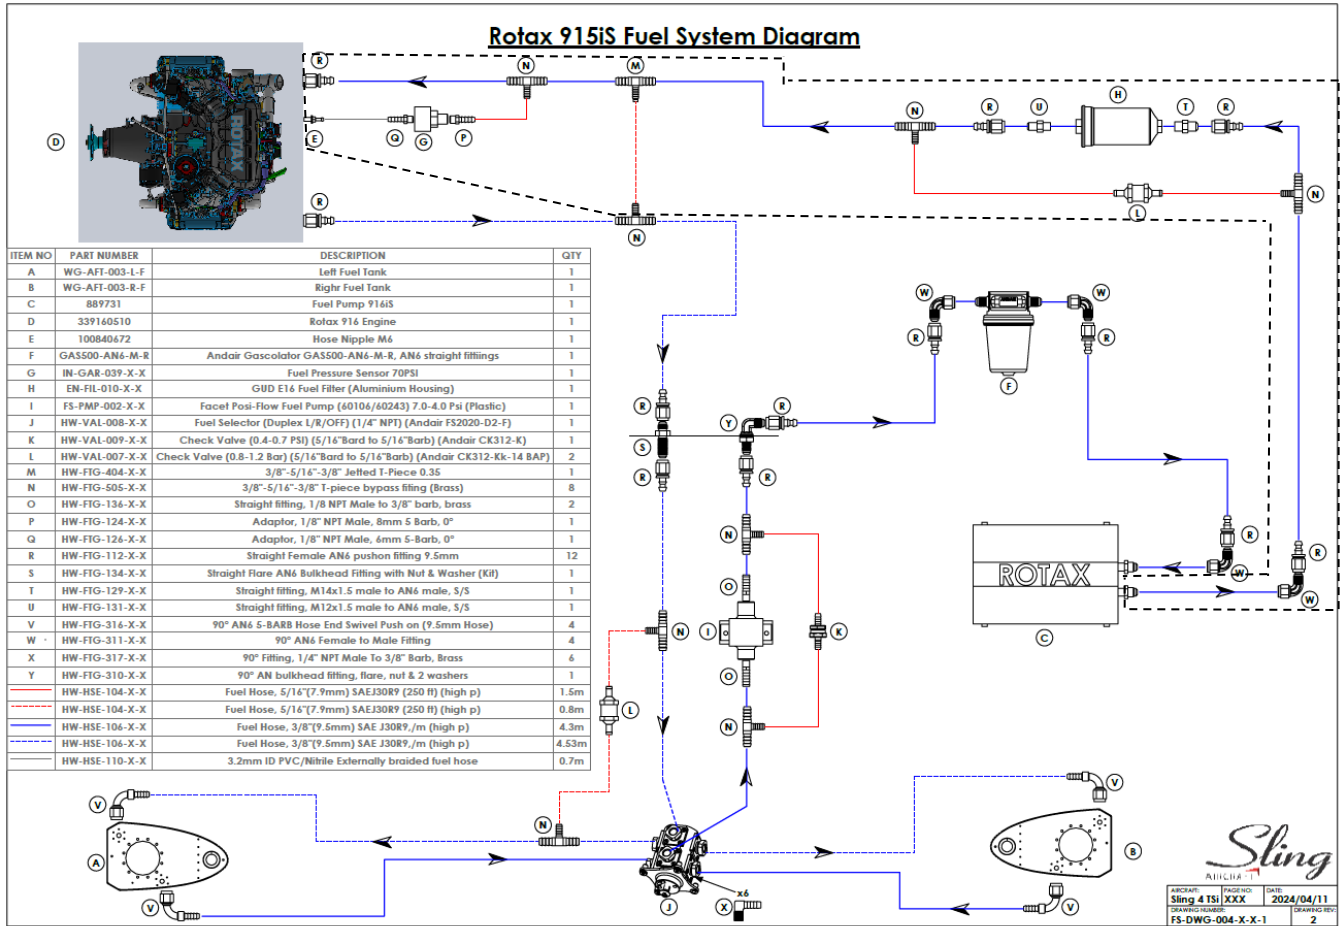
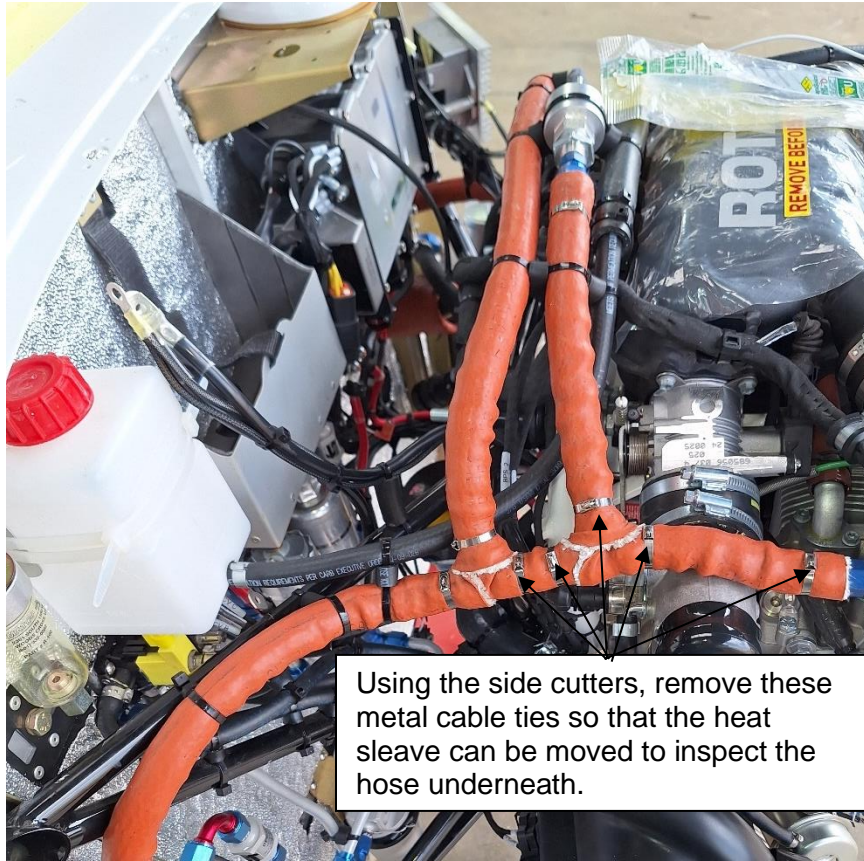

Figure 7: 915 iS Fuel System Diagram
Figure 8: Example of cable ties to be removed.
With reference to Figure 7, all the fuel lines bounded within the dashed line “----” must be inspected and replaced should they be of the sub-standard type of fuel hose. It must be replaced with the correct fuel hose as described in Section 2.
- Step 2: The heat sleeve around the fuel hose will be secured in place using either locking wire or metal cable ties. Once the cowling has been removed, used the side cutters to remove these so that the heat sleeve can be moved to inspect the hose underneath. Refer to Figure 8 for an example of how the heat sleeve is attached using the cable ties. Please note, Figure 8 is just for reference purposes, all the fuel lines (as shown in Figure 7) must be checked.
With reference to Figure 7, all the fuel lines bounded within the dashed line "----" must be inspected and replaced should they be of the sub-standard type of fuel hose. It must be replaced with the correct fuel hose as described in Section 2.
- Step 2: The heat sleeve around the fuel hose will be secured in place using either locking wire or metal cable ties. Once the cowling has been removed, used the side cutters to remove these so that the heat sleeve can be moved to inspect the hose underneath. Refer to Figure 8 for an example of how the heat sleeve is attached using the cable ties.